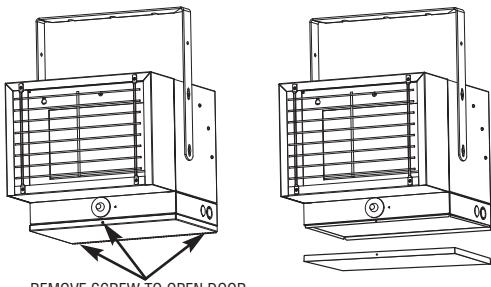

Figure 3 REMOVE SCREW TO OPEN DOOR
NOTE: To access field wiring and heater controls requires the bottom panel door open as shown in Figure 3. Consideration must be given to provide access to this panel.
1. To connect the power to the heater, simply remove the three screws from the bottom of the unit. This allows the cover to be removed, providing access to the electrical wiring and connectors. (See Fig. 3)